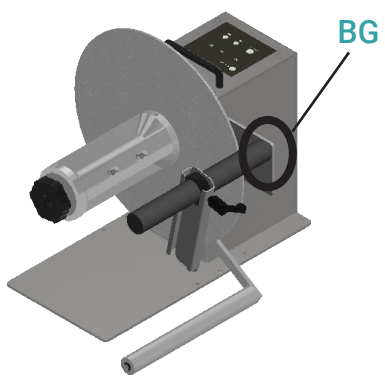
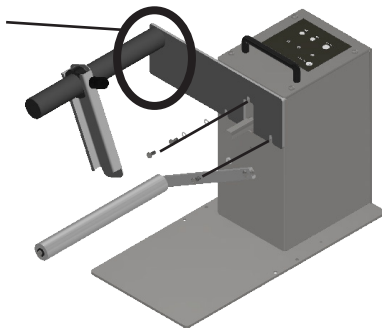

FIG. 1
FIG. 2
- Loosen (but leaving in the chassis to avoid loss) the 3 upper screws on the chassis and slide the BG in between the screws and chassis as shown in FIG.1 and FIG.2